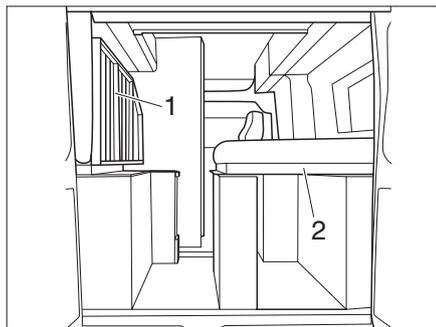

Fig. 54 Fixed bed (variant 2)
- ▶ Fold bed rails (Fig. 54,1 and 2) to the right or left and secure with straps.